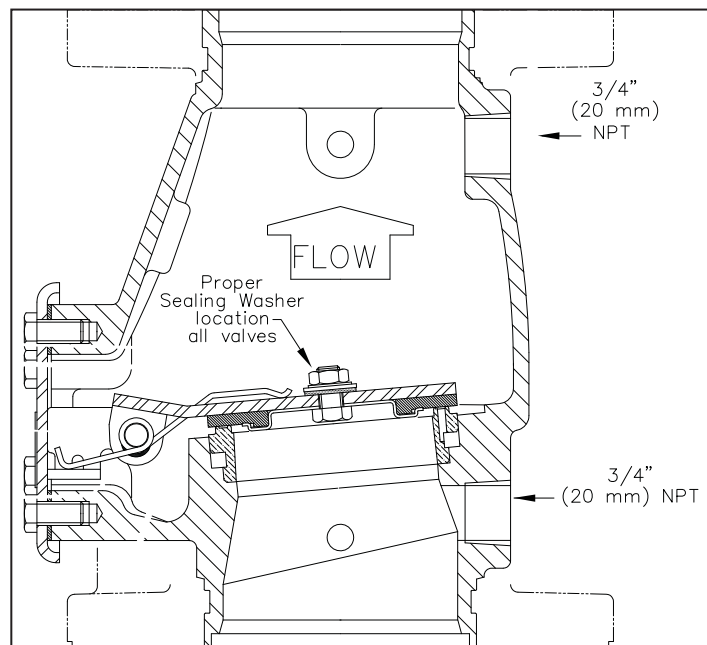

Figure 52
- b. Position the retainer (with rubber in place) against the clapper as shown in Figure 52.
- c. Replace and tighten the button-head socket screw, sealing washer, and hex nut, as shown in Figure 52. The sealing washer and hex nut must be located on the top side of the clapper as shown. Do not over-tighten.
- c. Insert the hinge pin through the holes at one end of the hinge assembly. Before continuing, re-install the spring (if applicable), using care to orient the spring as shown in Figure 52. Continue to push the hinge pin through the holes at the remaining end of the hinge assembly.